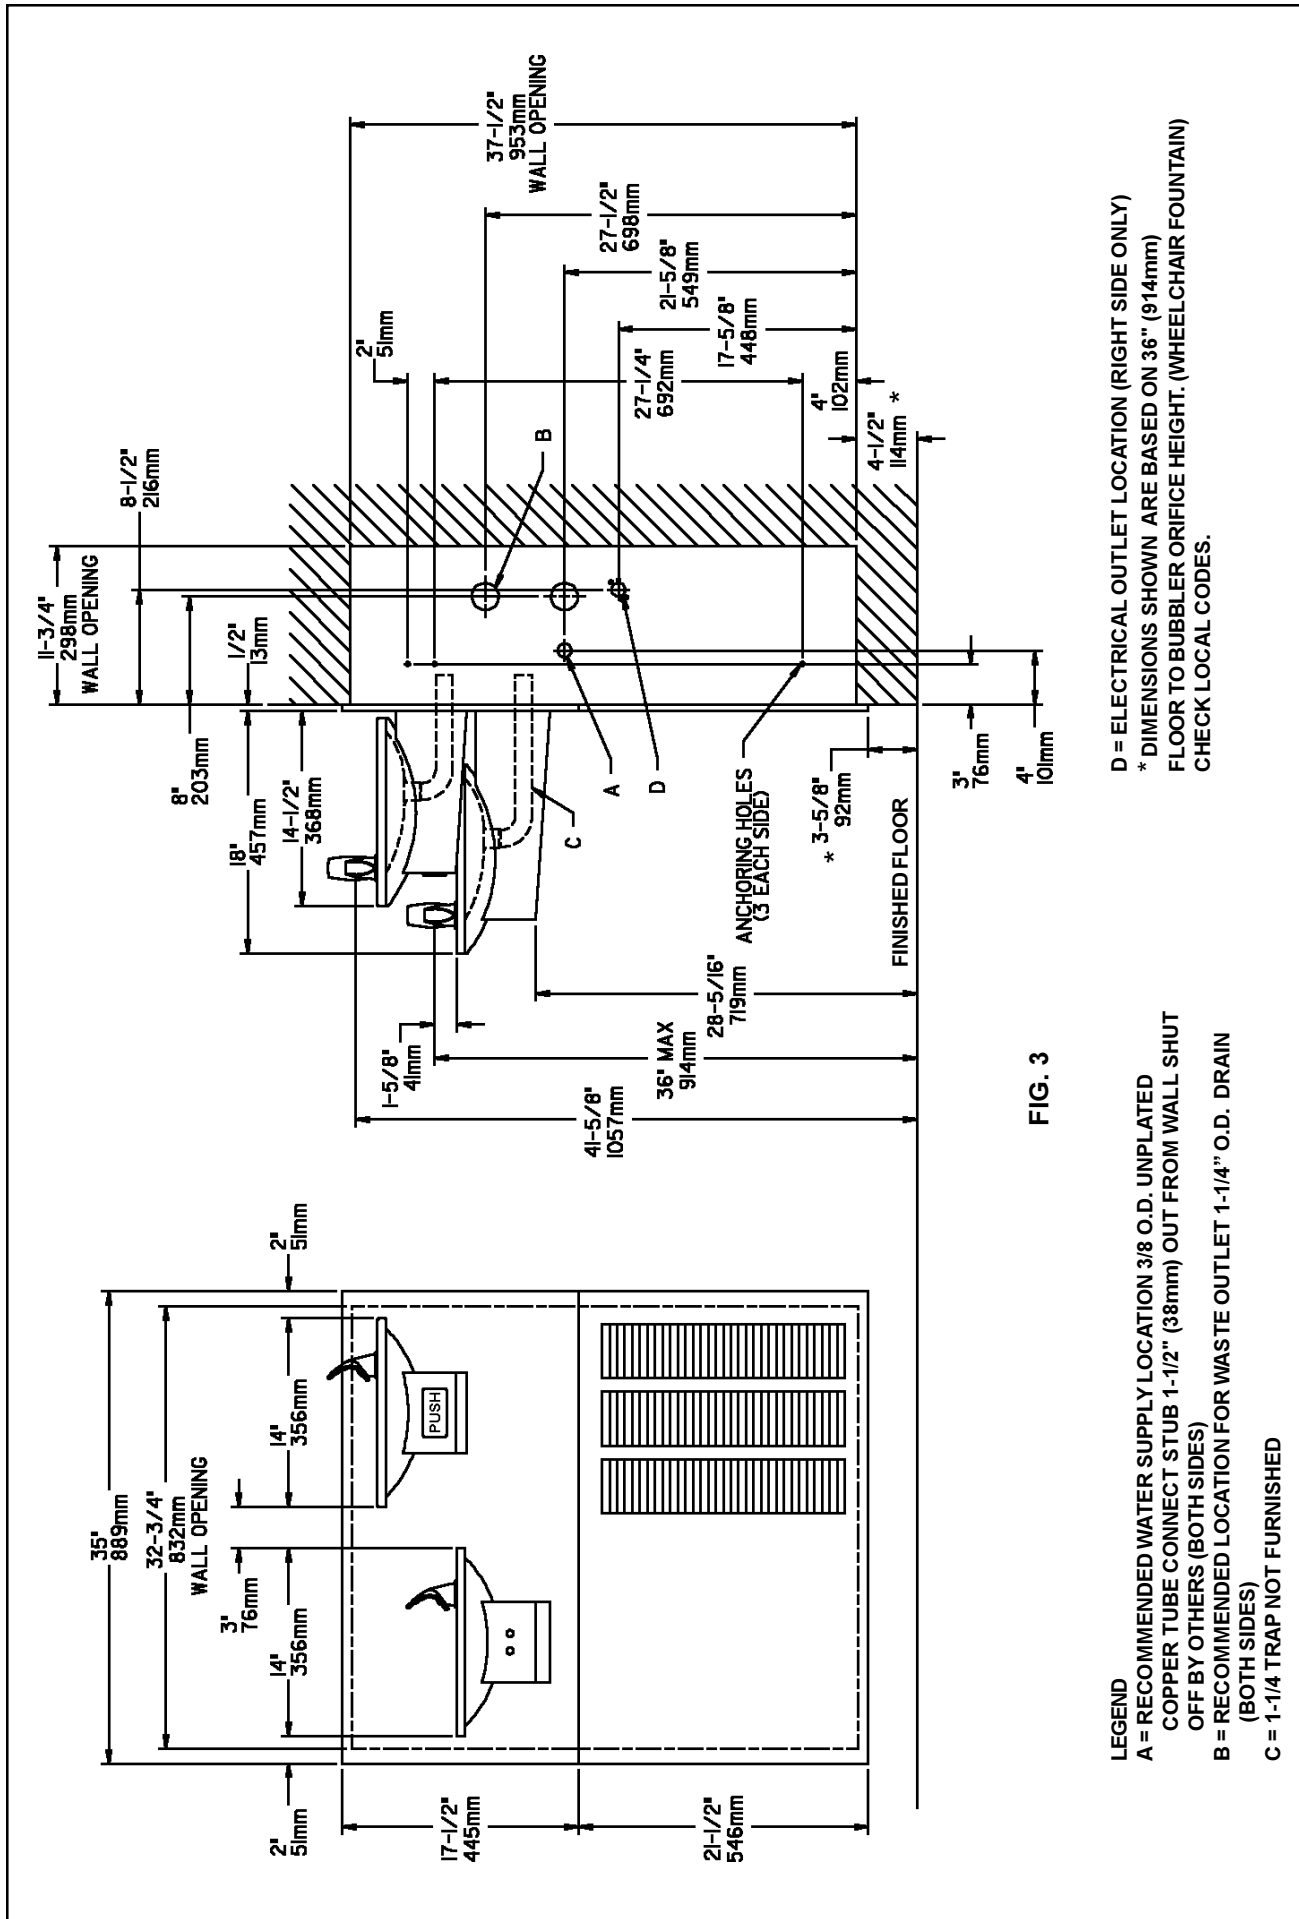

FIG. 3
1. **Fasten mounting box** into wall cutout using (6) screws or bolts (provided by others) through holes or knockouts provided on each side of the mounting box. See mounting box instructions and figure 3.
2. **Mount back panel** using (2) #8 x .50" (13mm) pan head screws and (2) large clips provided.
3. **Secure fountain body** through back panel to wall box using (4) 5/16" -18 x 1.75" (44mm) hex head bolts and (4) 5/16" - 18 nuts provided. (Typical each fountain).